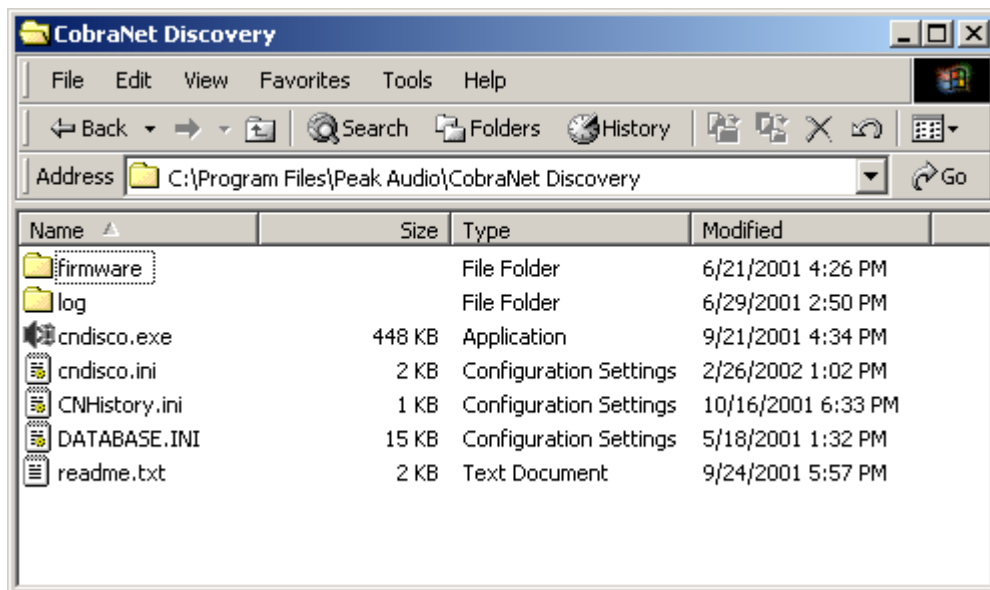

Figure 5
4. In order to be able to reprogram a CobraNet device, we need to properly supply the Discovery application with pointers to the firmware files and with a dependent file that is needed to compute checksums and recognize the type of device undergoing the upgrade. Firmware files should be placed into the “firmware” folder within the CobraNet Discovery directory. An example of the CobraNet Discovery directory location and included files is shown in Figure 5 (also on page 4). The dependent file is the “database.ini” file, which is available for free download from the Peak Audio website. This file should actually be placed *within* the “firmware” folder.